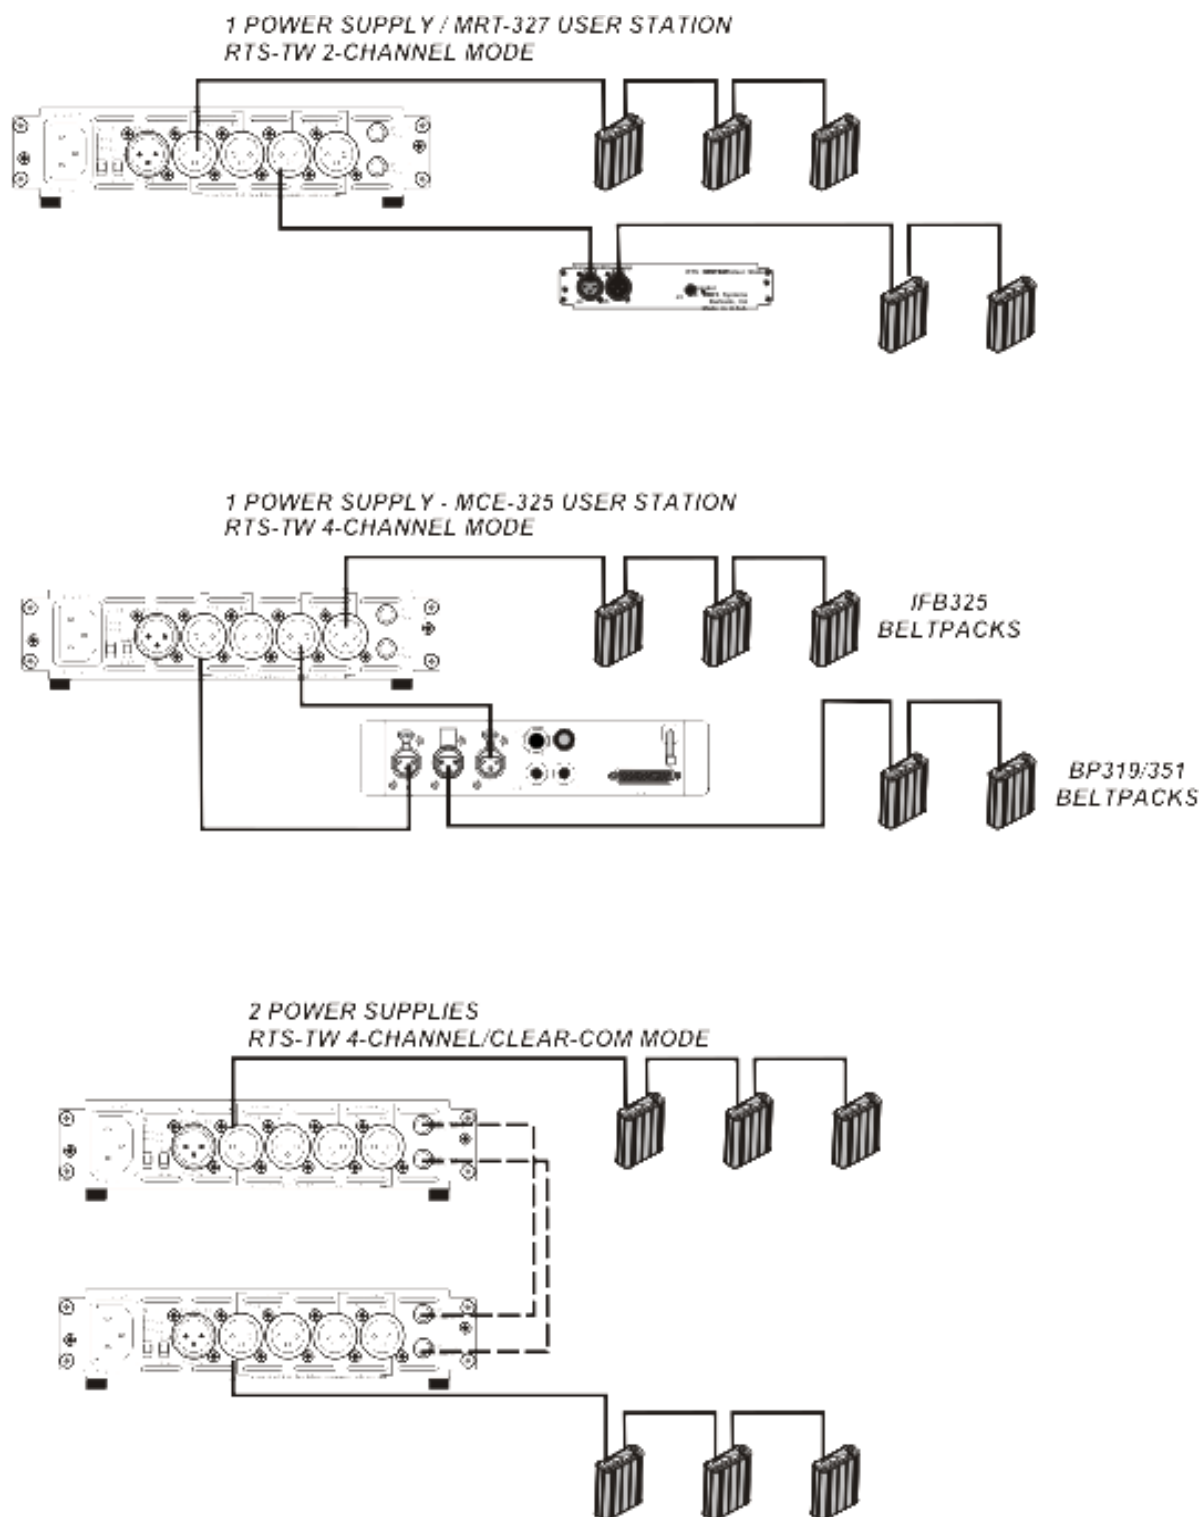

FIGURE 8. Configuration Diagrams
Connect intercom channels to the output connectors on the rear panel, see Figure 8, “Configuration Diagrams,” on page 18
4. Using Figure 8 on page 18, configure the **external devices** you want to use with the PS-20 unit.